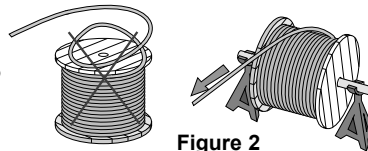

Figure 2
1. The cables/hoses must not have twists, bends or kinks at the time of installation. Unspool (do not uncoil) cable or hose from shipping reel several hours in advance of installation. Hang cables and hoses for 24 hours or, at the minimum, lay out in straight line to allow kinks and curves to straighten out. See Figure 2.